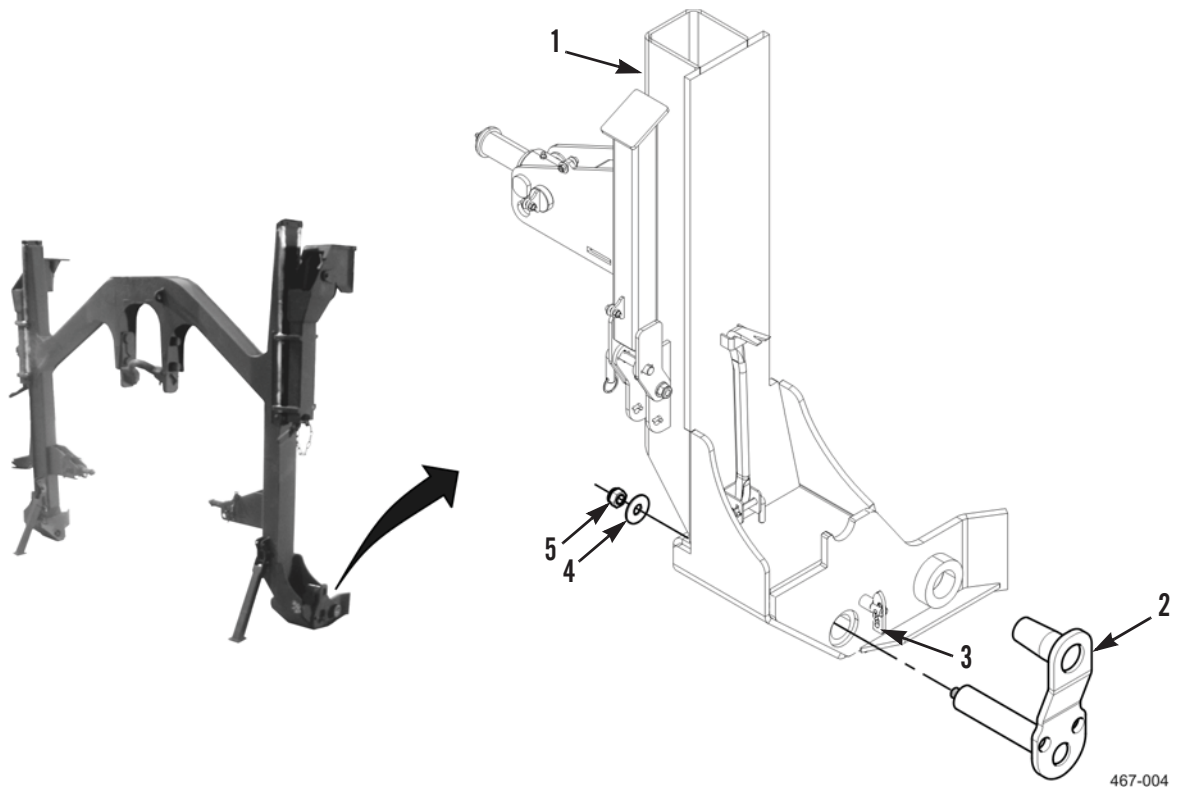

Figure 1. Container Pin.
1. Remove locknut (Figure 1, Item 5) and washer (Figure 1, Item 4) from container pin (Figure 1, Item 2). Discard locknut.
2. Release anti-loose fastener (Figure 1, Item 3) and remove container pin (Figure 1, Item 2) from lift frame (Figure 1, Item 1).
1. Release anti-loose fastener (Figure 1, Item 3) and install container pin (Figure 1, Item 2) on lift frame (Figure 1, Item 1).
2. Install washer (Figure 1, Item 4) and new locknut (Figure 1, Item 5) on container pin (Figure 1, Item 2).